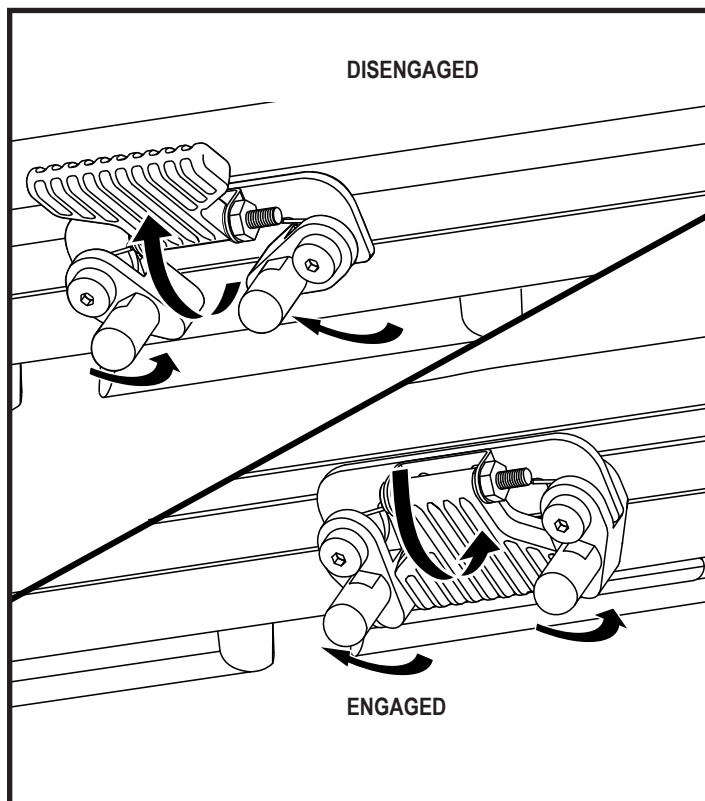

Figure 11. Seat Latch Safety
3. Flip down the seat latch safety. See figure 11.